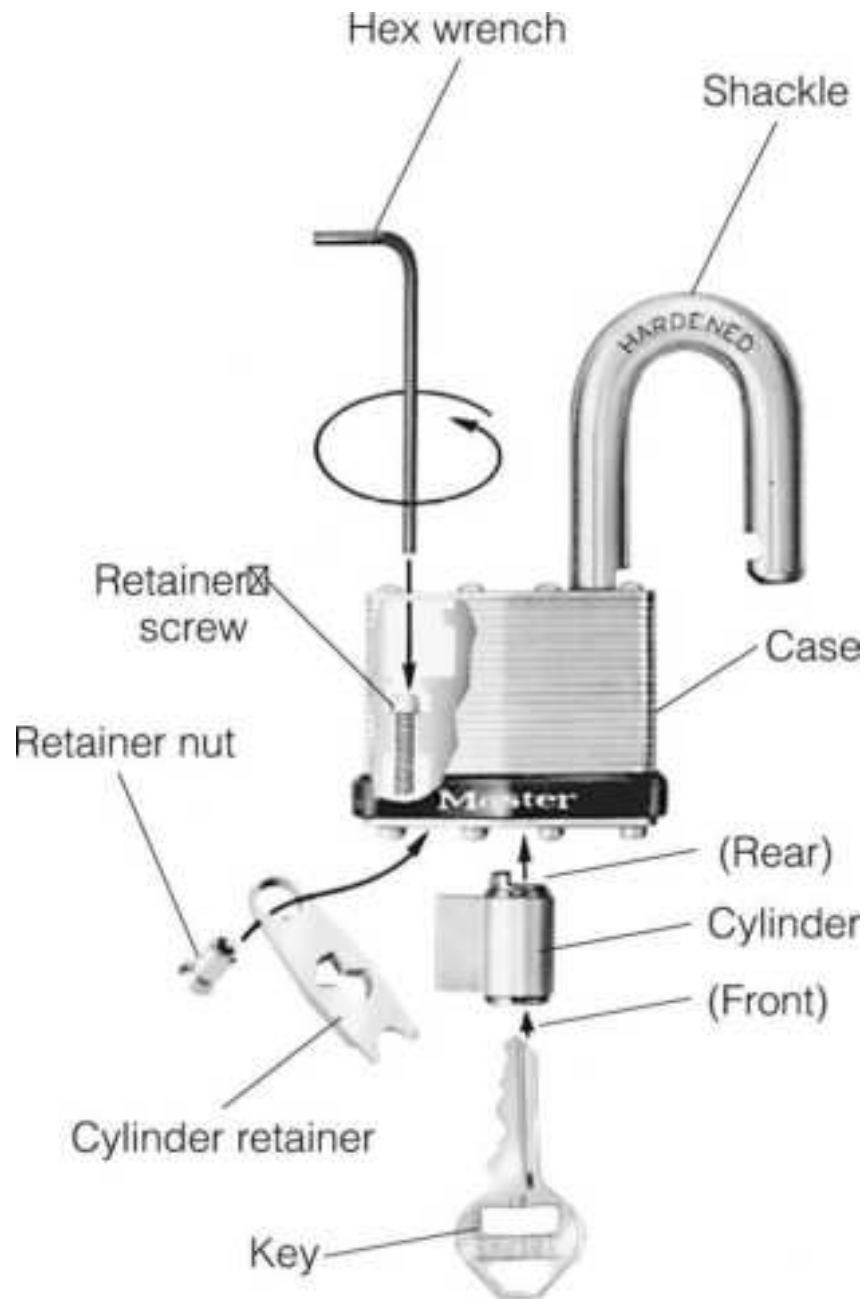

**Figure 12.13** Exploded view of a laminated Master padlock. (*Master Lock Company*)
1. Unlock the padlock and remove the key (Fig. 12.13 ). Turn the shackle away from its opening. *Note* : If rekeying WO (without cylinder) padlocks, use a screwdriver to open the shackle. Insert the tip of the screwdriver through the opening in the bottom plate. Turn the mechanism as shown to trip the shackle release. (For Pro Series 6000